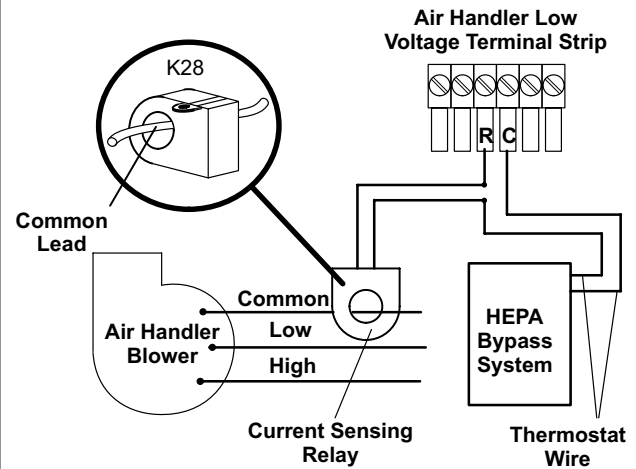

Figure 5
- 17 - Use a wire nut to connect one wire from the current sensing relay (K38) to one of the thermostat cable wires. See figure 5.
- 18 - Connect the other wire from the current sensing relay to the R terminal on the air handler terminal block. See figure 5.
- 19 - Connect the remaining thermostat cable wire to the C terminal of the air handler terminal block. See figure 5.